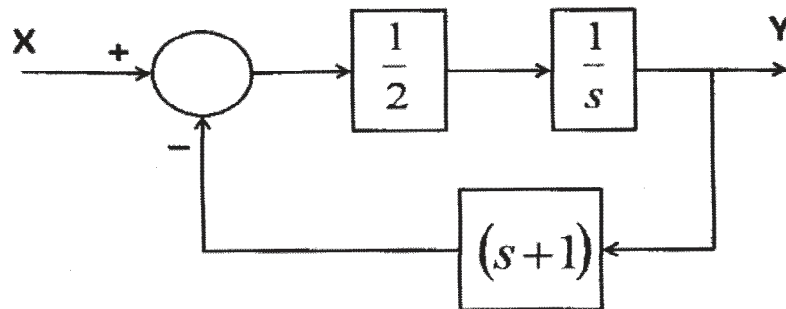

Figure 1
b) From the block diagram in Figure 1, determine the transfer function: Y/X. [4]